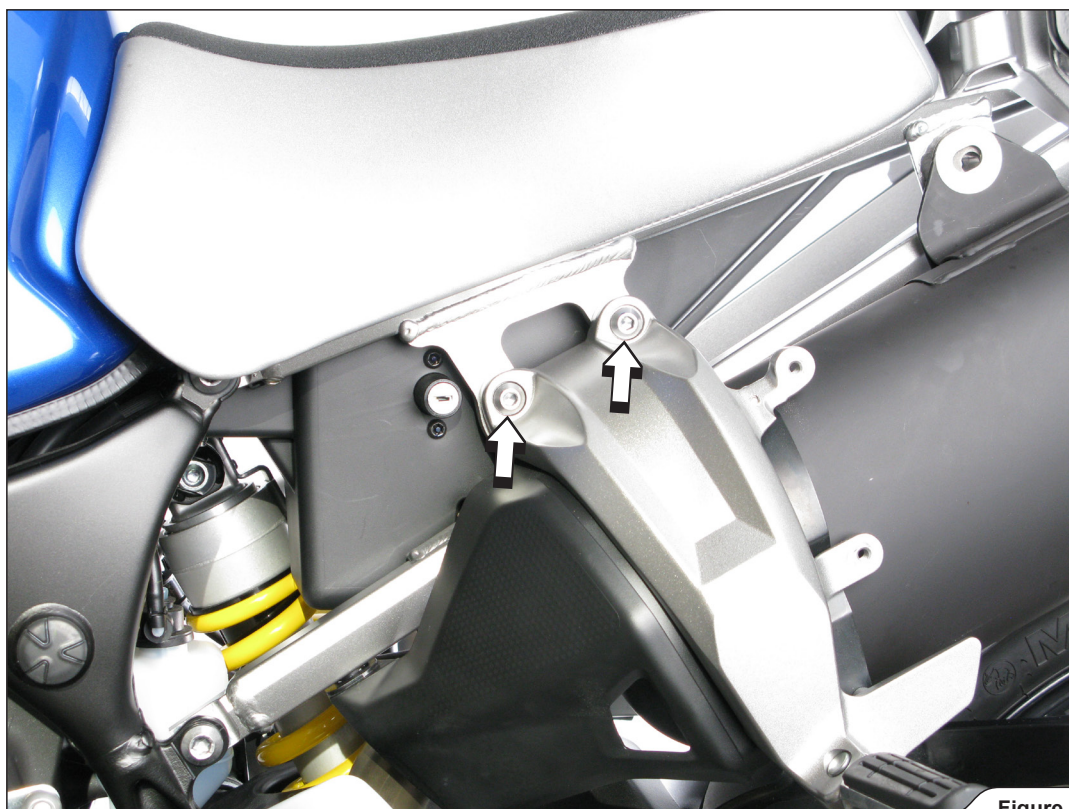

Figure 2
3. Unscrew the two marked bolts and remove the passenger's footrest (**Figure 2**).